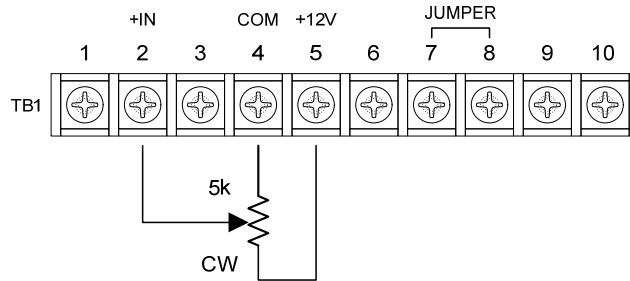

Figure 4.3 Remote Control with a Potentiometer
- a. With the power to the ZF1 turned off, connect the potentiometer as shown in Figure 4.3. The CW position is the full power output position. Terminal TB1-5 is internally connected to a positive dc voltage source.